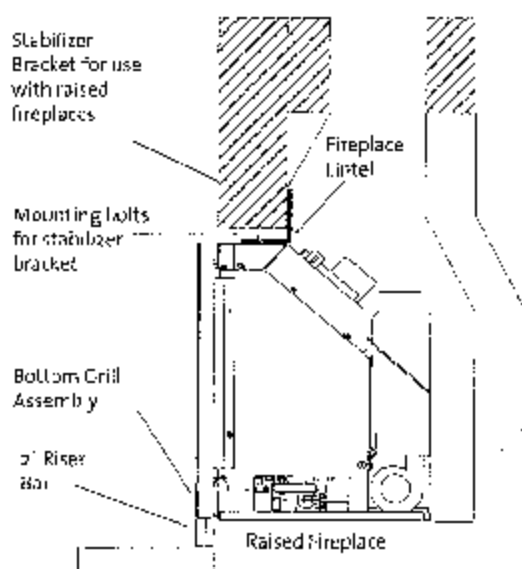

Figure 22. Installing the Stabilizer Bar.
RISER BAR: The 2" riser bar is used in conjunction with the standard surround, and is only needed in the event that the fireplace opening is between 27 1/2" and 29 1/2" high. The riser bar can be used in any installation if desired. See fig. 22.
1. If the riser bar is to be used the insert must be lifted 2" off the floor of the fireplace to allow for the riser bar to fill the space below the bottom grill assembly. Exception: in raise fireplace installations the riser bar may extend toward the hearth. See fig. 22.
NOTE: DUE TO THE WEIGHT OF THE SURROUND AND RISER BAR IT MAY BE NECESSARY TO UTILIZE THE STABILIZER BAR THAT IS SHIPPED WITH THE UNIT. THIS STABILIZER ATTACHES TO THE OUTSIDE OF THE FIREBOX AND WILL BRACE THE UNIT AGAINST THE FIREPLACE LINTEL PREVENTING THE UNIT FROM LEANING FORWARD. See figs. 22 and 22A.